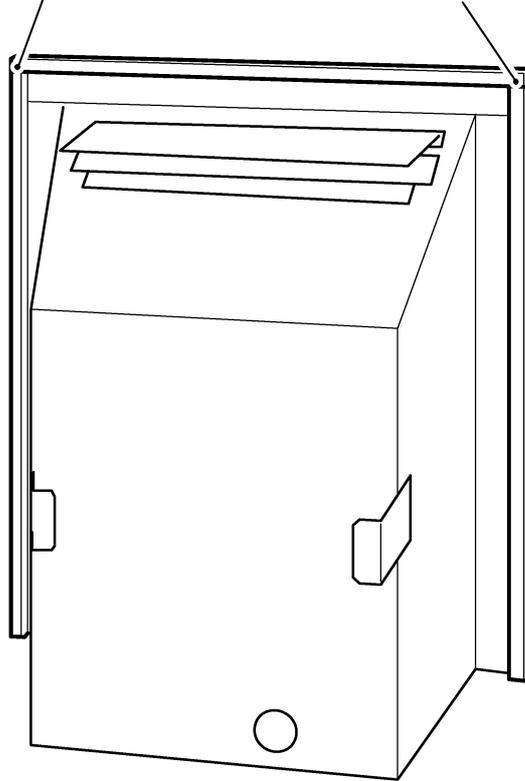

Figure 15. Fitting the foam seal
15. There is a length of self adhesive foam seal supplied with the fire. This will need to be fitted to the outer rear edges of the side and top flanges of the hotbox. Cut a 485mm length of foam seal. Be careful not to stretch the seal when measuring. Remove the protective backing from the foam seal and fit this to the rear of the top flange (See figure 15). Cut two 580mm lengths. Fit these to the rear outer edges of the side flanges. Ensure that there is no gap between the foam seals where they meet at the top flange (See figure 15).